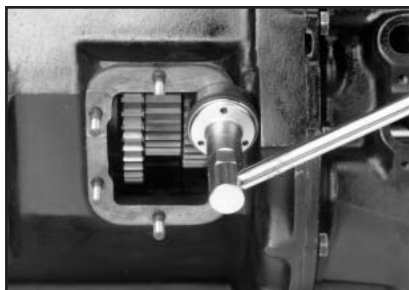

Fig. 4
4. Install the six or eight studs until the shoulder of the stud is flush with the transmission mounting surface (**Fig. 4**).